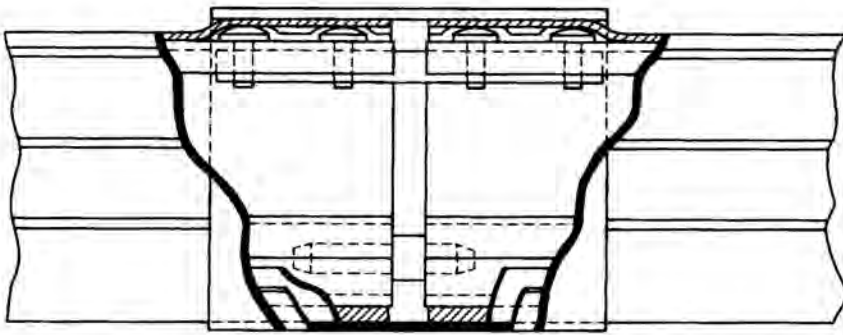

FIGURE 74
3. At each junction where conductor bar is joined or spliced, splice kit 810.35 is required. This kit includes two special dowel pins, one splice cover, and two tapped splice bars with screws. The longest end of each dowel pin is driven into the triangular opening at the bottom of each conductor of the bar, and the conductors of the conductor bar piece to be joined is driven onto the short end of the dowel pins. The splice bars are then secured at the top of each conductor of the bar using the screws provided and the pre-drilled holes in the bar as shown in Figure 74. To install splice bars, peel back insulating cover about 2" on each side of the joint. Place splice bars on the conductor section to be erected, insert and fasten screws finger tight. Raise section into position engaging the dowel pins and splice bars with the previously erected section. Insert additional screws and tighten all screws securely. Re-install the conductor and install splice cover. To install splice cover, hook lip of cover on one side of bar and with hand pressure snap the other lip into position. If a section has been cut, holes must be drilled in the top of each conductor bar to secure the splice bars.